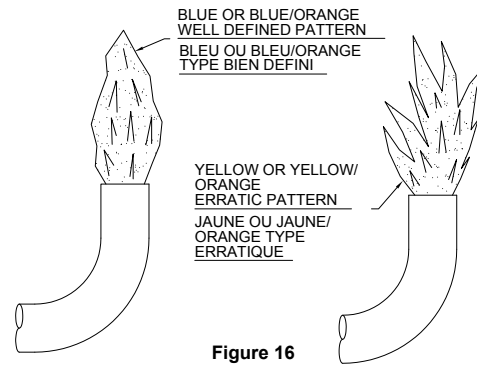

Figure 16
- A. Main Burner: Do not allow the burner to burn with a yellow flame, because sooting will occur. (See Safety Warnings). If the burner flame is yellow and has an erratic pattern, shut unit down and contact a qualified service agency. Do not continue operating unit with improper burner flame. (See Figure 16 for correct and incorrect burner flame appearance.)